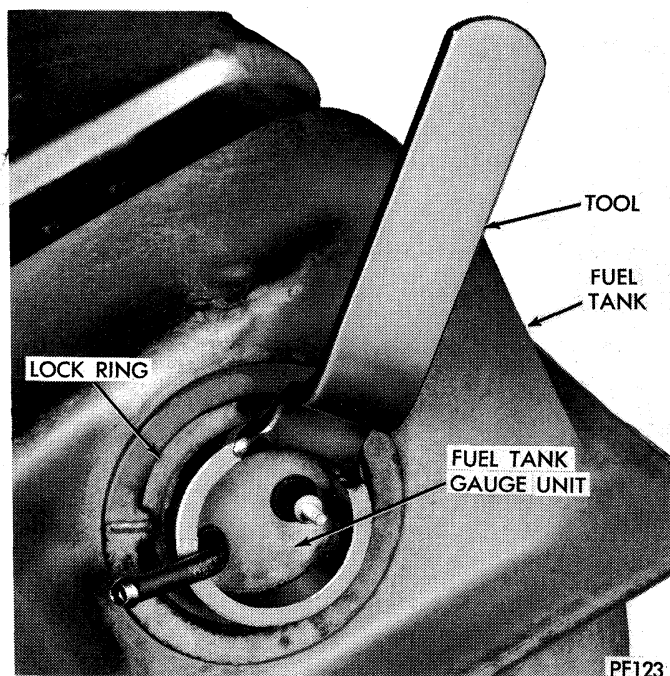

Fig. 3—Removing or Installing Fuel Tank Gauge Sending Unit
(2) Remove sending unit lock ring using special tool C-3582 (Fig. 3).
(3) Remove sending unit as follows: